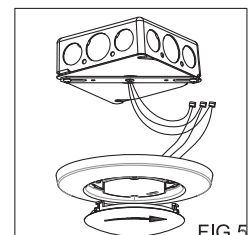

FIG.5
7. Place the Lens back and turn it clockwise to fix. (FIG.5)